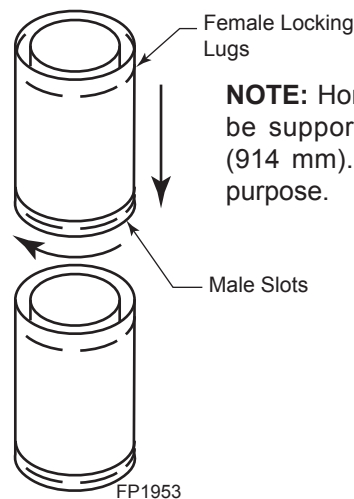

Figure 17 - Rigid Vent Pipe Connections
Twist-lock Procedure: The female ends of the pipes and fittings have three locking lugs (indentations). These lugs will slide straight into matching slots on the male end of adjacent pipes and fittings. Push the pipe sections together and twist one section clockwise approximately one-quarter turn until the sections are fully locked. *Figure 17*
2. Assemble the desired lengths of pipe and elbows necessary to reach from the burner system flue up through the firestop. Be sure pipe and elbow connections are fully twist-locked. Page 20, Figure 17